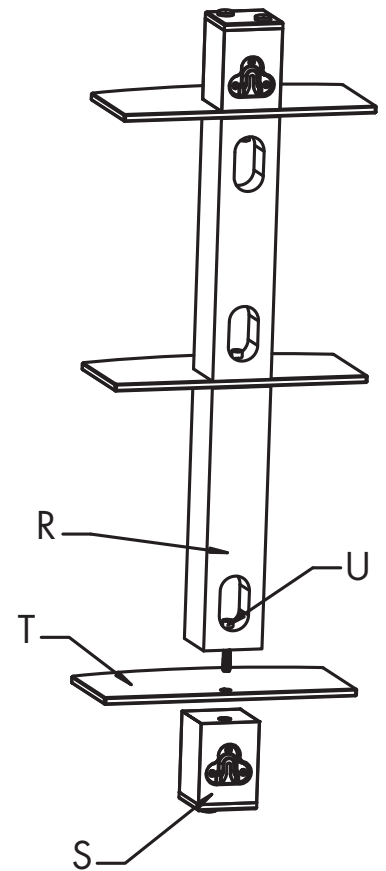

Figure 11b
- To complete **Side Unit** assemble **Side Unit Bottom Assembly (S)**, **Glass Shelf** and **Side Unit Lower Support** using **Socket Cap Screw**. Refer to Figure 11b.